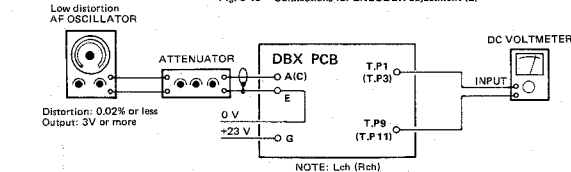

Fig. 5-16 Connections for ENCODER adjustment (3)
6. Like Fig. 5-16, connect a DC voltmeter between TP1 and TP9 for L-ch (or TP3 and TP11 for R-ch), then note the reading on the DC voltmeter with an input signal of 1 kHz -8 dB (308 mV).